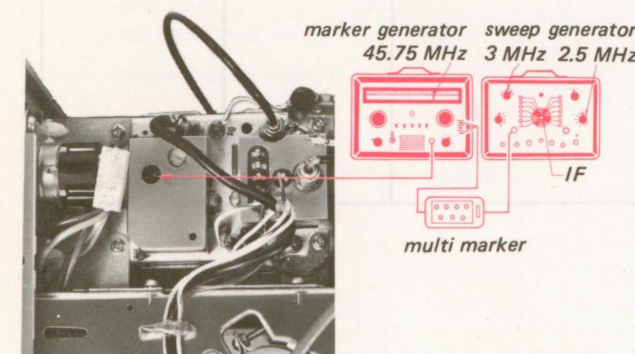

Fig. 4-18. Sweep/marker connections for overall bandpass sweep checks
6. Connect a sweep generator and a marker generator to the tuner test point as shown in Fig. 4-18.